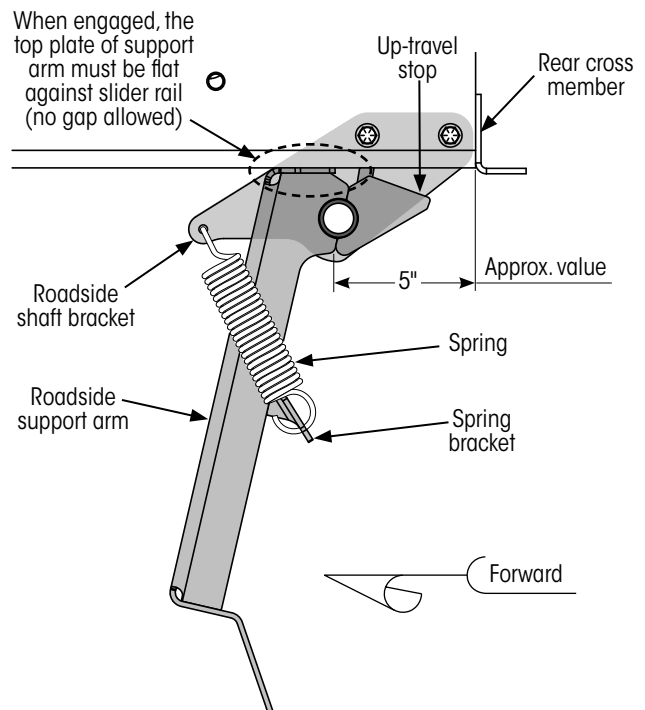
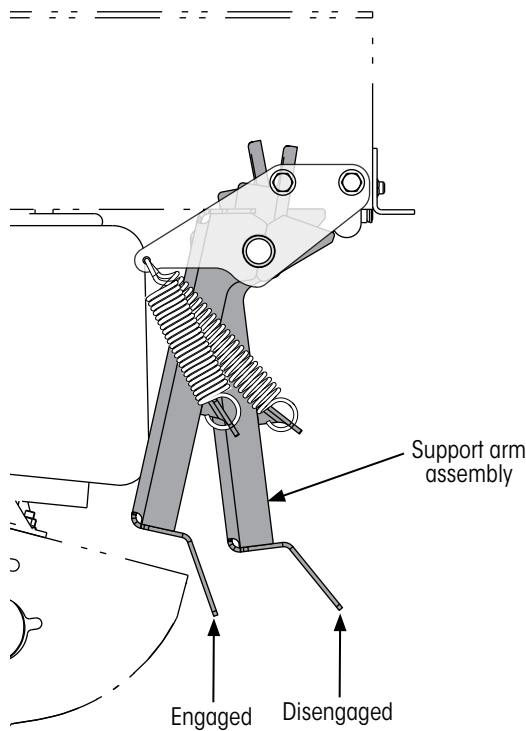

Figure 36: Verifying support arm assembly position
Figure 37: Checking support arm assembly movement
NOTE: At this time, spring tension should be holding the roadside support arm top front edge against the side rail (Figure 36).
- A. Pull roadside support arm toward the disengaged position and lift shaft up so the top surface of the support arm is flat against the bottom surface of the side rail (Figure 36).
10. Verify the top surface of the support arms are flat against the underside bottom surface of the side rails and there is no gap (Figure 36) between the top of each support arm and the side rail.
11. Measure between the rear crossmember and the back edge of both arms (Figure 36). This measured distance should be approximately five inches.
13. Manually move support arm assembly (Figure 37) between disengaged up-travel stop (Figure 36) and fully engaged positions to ensure support arms move freely without binding.